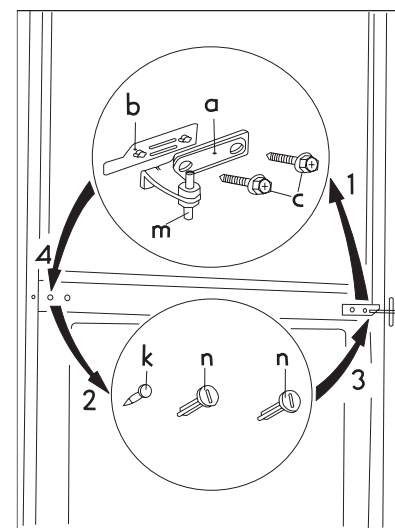

fig. 2.
- Open the doors and dismount the double door hinge (a, b) by removing the screws (2 pieces) (c). (fig.2)
- Take off the double door hinge (a, b, c) by gradually removing it from the cabinet, slightly tilting both doors. Do not forget to remove the plastic spacer (b) under the hinge. (fig.2)
- Remove the covering pins (3 pieces) (n, k) of the double door holder on the left side and put them to the other side. (fig.2)
- Fit the pin of the double door hinge (m) into the left drill hole of the freezer door. (fig.2)